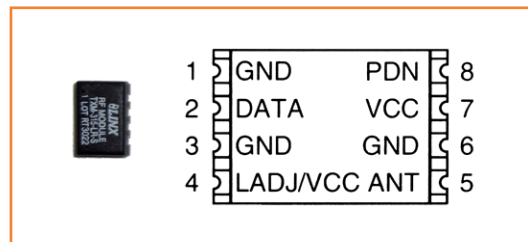

Figure 1. The Linx TX Module with its pinout from the datasheet. There's just a few connections needed to get this module to work.
**Figure 1** shows the transmitter module and its pin assignments, as shown in the part’s data-sheet (available from [1]). **Figure 2** is a mimic of the previous, but now depicting the receiver module. There are few active pins. The receiver has more pins, though most are not connected